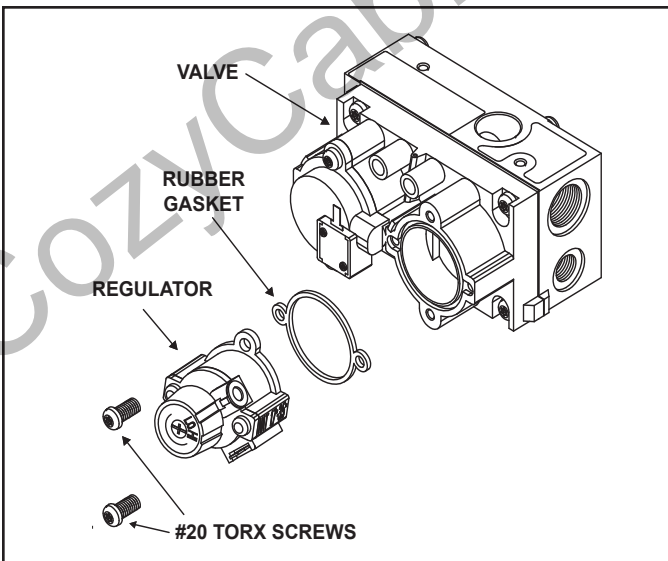

Figure 5
9. Using a #20 tamper-proof Torx screwdriver, remove the regulator and rubber gasket on face of valve. See Figure 5. Discard both the regulator and gasket.
10. Install the rubber gasket and new regulator included in the conversion kit. Be sure the gasket is seated properly as shown in Figure 5.